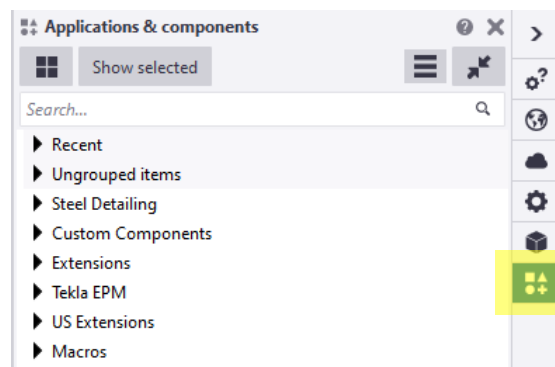

Figure 3-6. Applications & Components Catalog
- Open the **Applications & components** catalog (see Figure 3-6).